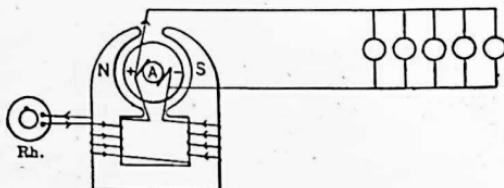

FIG. 119. Shunt generator, supplying incandescent lamps with current.
59. Shunt Generator. When the fields are excited by a current shunted around the main circuit, as in Fig. 119
60. Building Up of Shunt Field. Even when no current flows through the field coils of a machine there is always a small amount of magnetism in the field. So when we start up a shunt generator, the armature conductors are revolving in a very weak field. But as the wires of the armature cut through this weak field, a small voltage is produced across the brushes. Now, since the field coils are connected directly across the brushes (see Fig. 119 and 120), a small current will be sent through these windings. This will slightly increase the strength of the magnetic field. As the armature now revolves in this increased field, the voltage across the brushes will be raised a little, which in turn will send a larger current through the field coils, which still further increases the magnetic field, raises the voltage, and increases the field current. This is called the building up process of the field, and it continues until the fields have enough magnetism to produce full voltage, the value of which depends upon the speed of the armature and the resistance of the field circuit. This process usually takes from 10 to 30 seconds. After the voltage has become constant, it can be controlled further and set to any definite value within the limits of the machine, by means of an adjustable resistance in series with the field. If the voltage is too high, it can be lowered by increasing the resistance, thus lowering the field current, which weakens the magnetic field and therefore lowers the voltage produced in the armature conductors. We can also raise the voltage by increasing the speed of the armature, or lower the voltage by decreasing the speed of the armature. Then the voltage across the brushes remains constant and is ready to deliver current to the outside line.